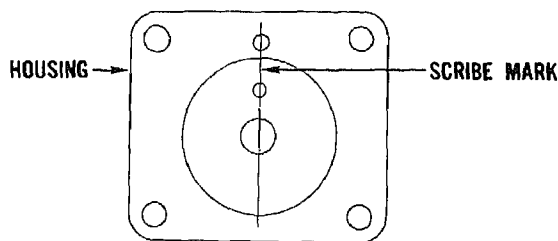

Fig. 507-9. Scribe barrel and housing for alignment
1. The aluminum housing should be lightly scribed as shown in Fig. 507-9. This will facilitate alignment of the fuel vent hole of the housing and the vent hole in the new barrel to be installed.
4. Scribe the new replacement governor barrel as shown in Fig. 507-9. Scribe line should pass through the center of the plunger bore and the center of the $\frac{1}{8}$ in. diameter fuel hole.